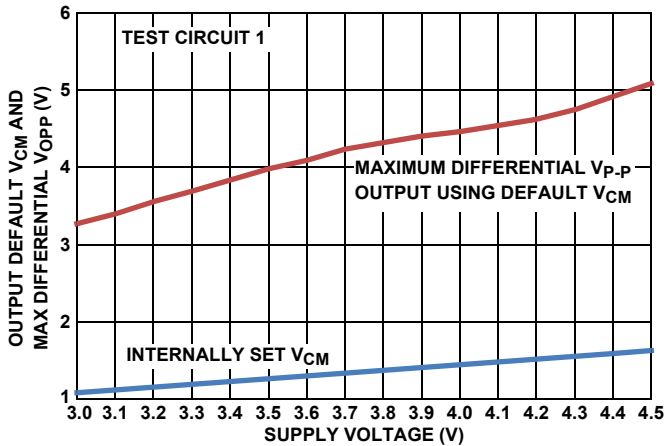
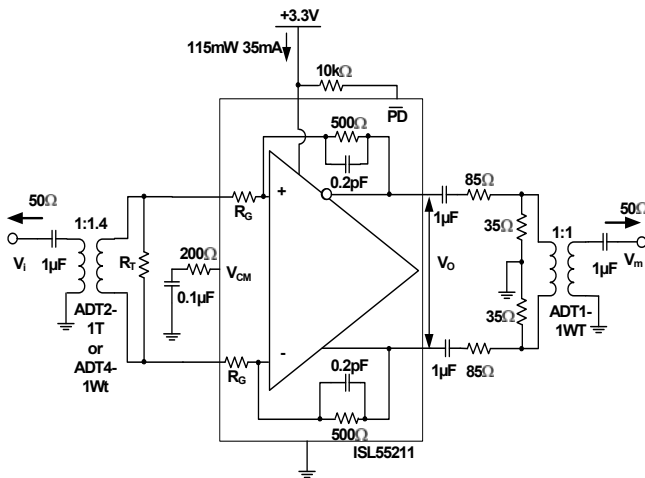
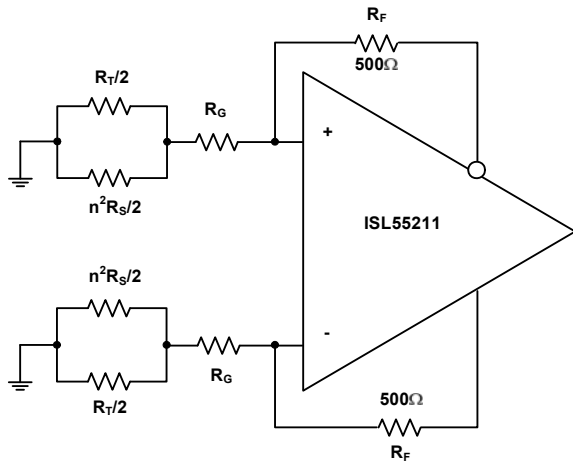
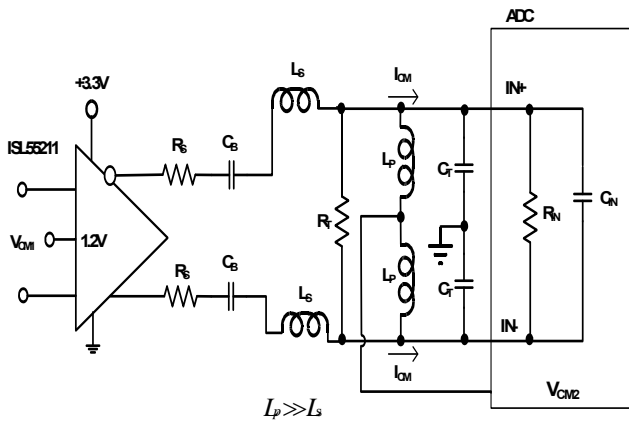

FIGURE 27. DEFAULT V_{CM} AND MAX V_{OPP} vs SUPPLY VOLTAGE
FIGURE 29. TEST CIRCUIT 1
FIGURE 35. NOISE GAIN MODEL FOR THE TRANSFORMER COUPLED INPUT CIRCUIT OF FIGURE 29
FIGURE 37. AC-COUPLED, HIGHER FREQUENCY RLC INTERSTAGE FILTER DESIGN
Test Circuit 1 of Figure 29 forms a starting point for many of the characterization curves for the ISL55211. Since most lab sources and measurement devices are single-ended, this circuit converts to differential at the input through a wideband transformer and would also be a typical application circuit coming from a single-ended source. Assuming the source is a 50 Ω impedance, the internal R_G resistors and external R_T are set to provide both the input termination and the gain. Since the inverting summing nodes act as virtual ground points for AC signal analysis, the total termination impedance across the input transformer secondary will be $(2 * R_G) || R_T$. Setting this equal to $n^2 * R_S$ will give a matched input impedance inside the bandwidth of the transformer (where "n" is the turns ratio). The amplifier gain is fixed by the selected input R_G element and the internal 500 Ω feedback resistors. While the ISL55211 is internally a Voltage Feedback Design (VFA) to give the lowest possible noise, internal compensation caps hold the bandwidth over gain setting approximately constant at 1.4GHz. For wider small signal bandwidth at lower gains, consider the ISL55210, which provides >2.2GHz at a gain of 12dB.
Working with a transformer coupled input as shown in Figure 29, or with two DC blocking caps from a differential source, means the output common mode voltage set by either the default internal V_{CM} setting, or a voltage applied to the V_{CM} control pin, will also appear as the input common mode voltage. This provides a very easy way to control the ISL55211 I/O common mode operating voltages for an AC-coupled signal path. The internal common mode loop holds the output pins to V_{CM} and, since there is no DC path for an I_{CM} current back towards the input in Figure 29, that V_{CM} setting will also appear as the input common mode voltage. It is useful, for this reason, to leave any input transformer secondary centertap unconnected. The internally set V_{CM} voltage is referenced from the negative supply pin. With a single 3.3V supply, it is very close to 1.2V but will change with total supply voltage across the device as shown in Figure 27.
Most of the characterization curves starting with Figure 29 then get different gains by changing the connections to the two pairs of input R_G connections, as shown on the pin configuration drawing on page 2. Two input turns ratios are intended for Test Circuit 1; either a 1:1.4 turns ratio (ohms ratio of 2) or a 1:2 turns ratio (ohm ratio of 4). The specific transformers shown in Figure 29 are representative of broadband RF transformers but alternate devices and manufacturers of these turns ratio devices are certainly applicable. The output side of this test circuit presents a differential 200Ω load while converting the differential to single-ended through a resistive attenuator and a 1:1 transformer. This inserts approximately a 17dB insertion loss that is removed to report the characteristic curves. For load tests below the 200Ω shown in Figure 29, a simple added shunt resistor is placed across the output pins. For loads > 200Ω, the series and shunt load R's are adjusted to show that total load (including the 50Ω measurement load reflected through the 1:1 output measurement port transformer) and provide an apparent 50Ω differential source to that transformer. This output side transformer is for measurement purposes only and is not necessary for final applications circuits. There are output interface designs that do benefit from a transformer as part of the signal path as shown in Figure 1. In that case, the 1:1.4 output side transformer becomes part of a filter design and recovers the filter insertion loss from the amplifier output pins to the ADC inputs.
The characterization circuit of Figure 29 shows one possible input stage interface that offers several advantages. Where AC coupling is adequate, the circuit of Figure 29 simplifies the input common mode voltage control. If the source coming into this stage is single-ended, the input transformer provides a zero power conversion to differential. The two gain resistors (R_G in Figure 29) provide both a portion of the input termination impedance and the gain element for the amplifier. For 50Ω systems, these R_G resistors are too high with the turns ratios shown in Figure 29 to provide the full match and an external R_T resistor is required. This R_T element goes away at the highest gain setting using a 1:2 input turns ratio transformer.
This input interface also simplifies the input common mode control. The V_{CM} pin controls the output common mode voltage. In most DC-coupled FDA applications, the input common mode voltage is determined by both this output common mode and the source signal. In a configuration like Figure 29, there is no path for a common mode current to flow from output to input, so the input common mode voltage equals the output. A similar effect could be achieved with just two blocking caps on the two R_G resistors. A DC-coupled, single to differential, configuration will also have a common mode input that is moving with the input signal. Converting to just a differential signal at the amplifier, as in Figure 29, removes any input signal related artifacts from the input common mode making the ISL55211 behave as a differential only VFA amplifier. There is only a very small differential error signal at the inputs set by the loop gain, as in a
of 1.3V for instance, then $1.3V + 0.9V + 1.5V = 3.7V$ will give an unclipped 3.6V_{P,P} output capability. The $V_{P,P}$ reported in Figure 27 is an asymmetrically clipped maximum swing. Going 10% above this 3.7V target to 4.1V will be within the recommended operating range and give some tolerancing headroom that would also suggest the V_{CM} voltage be moved up to approximately 1.5V, which coincides with the default output V_{CM} from Figure 27. Operating at +4.1V single supply in a Figure 29 type configuration will give the maximum linear differential output swing of 3.6V_{P,P}.
The differential inputs internal to the ISL55211 also have operating range limits relative to the supply voltages. Operating in an AC-coupled circuit like Figure 29 will produce an input common mode voltage equal to the outputs. The inputs can operate with full linearity with this V_{CM} voltage down to 1.1V above the $-V_S$ supply. On the default 1.2V output V_{CM} on +3.3V supplies this gives a 100mV guardband on the input V_{CM} voltages. Overriding the default V_{CM} by applying a control voltage to the V_{CM} pin should be done with care in going towards the negative supply due to this limit. On the + side, the maximum input V_{CM} above the $-V_S$ supply is 2V so there is more room to move the output V_{CM} up than down from the default value.
+85°C maximum operating ambient from Figure 27, we get $4.5V \times 45mA \times 120^\circ C/W = +24^\circ C$ rise above +85°C or approximately +109°C operating T_j maximum - still well below the specified Absolute Maximum operating junction temperature of +135°C.
Adding an input transformer can improve the input referred noise by adding a noiseless voltage gain. Starting from Test Circuit 1 of Figure 29, and assuming the source shows a matched broadband source R_S that will be matched by the input referred parallel combination of 2*R_G || R_T, a noise gain analysis circuit can be developed as shown in Figure 35.
Stepping through the 3 gain settings with two input transformers will allow the noise gain to be calculated for the circuit of Figure 35, which is all that is needed in Equation 1 to arrive at an output differential noise (since R_F is fixed at 500Ω). Doing this gives Table 4.
2. AC-coupled, higher frequency range interstage filter design. This design replaces the R_T resistors in Figure 35 with large valued inductors and implements the filter just using shunt resistors at the end of the RLC filter. In this case, the ADC V_{CM} can be tied to the centerpoint of the bias path inductors (very much like a Bias-T) to provide the common mode voltage and current to the ADC inputs. These bias inductors do limit the low frequency end of the operation where, with $1\mu\text{H}$ values, operation from 10MHz to 200MHz is supported using the approach of Figure 37.